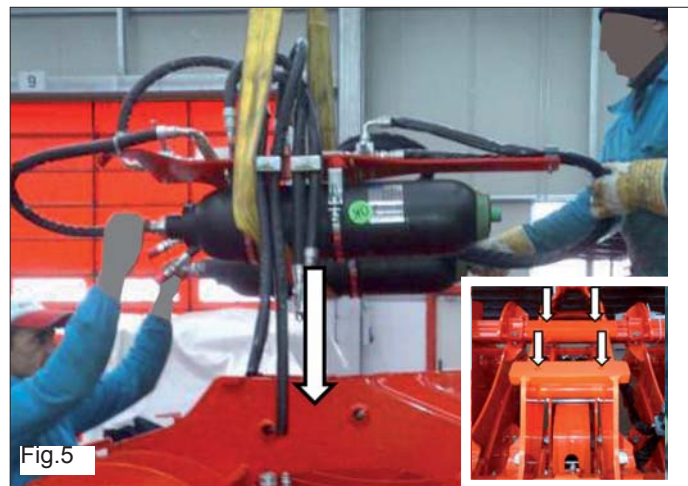

Fig.5
1. Place accumulators unit on the implement and fix it with n°4 M12 bolts through the appropriate holes. (Fig.5)